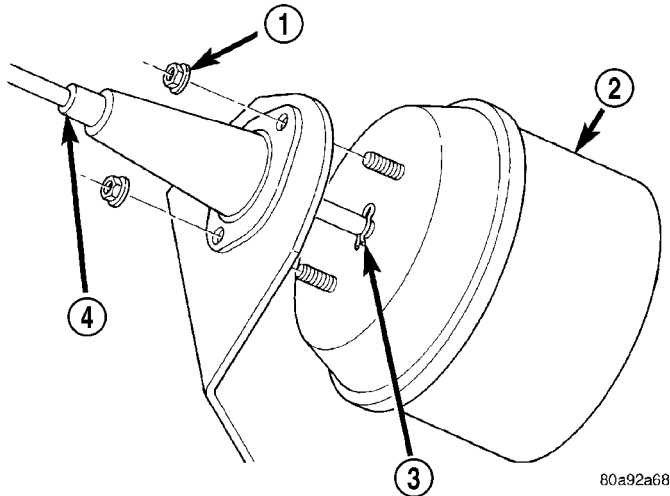

Fig. 9 SERVO CABLE CLIP REMOVE/INSTALL — TYPICAL
(6) Disconnect servo cable at throttle body. Refer to Servo Cable Removal/Installation.
(7) Remove 2 mounting nuts holding servo cable sleeve to bracket (Fig. 9).
(8) Pull speed control cable sleeve and servo away from servo mounting bracket to expose cable retaining clip (Fig. 9) and remove clip. Note: The servo mounting bracket displayed in (Fig. 9) is a typical bracket and may/may not be applicable to this model vehicle.
(9) Remove servo from mounting bracket. While removing, note orientation of servo to bracket.
(1) Position servo to mounting bracket (Fig. 9).
(2) Align hole in cable connector with hole in servo pin. Install cable-to-servo retaining clip (Fig. 9).
(3) Insert servo mounting studs through holes in servo mounting bracket.
(4) Install 2 servo-to-mounting bracket nuts and tighten. Refer to torque specifications.